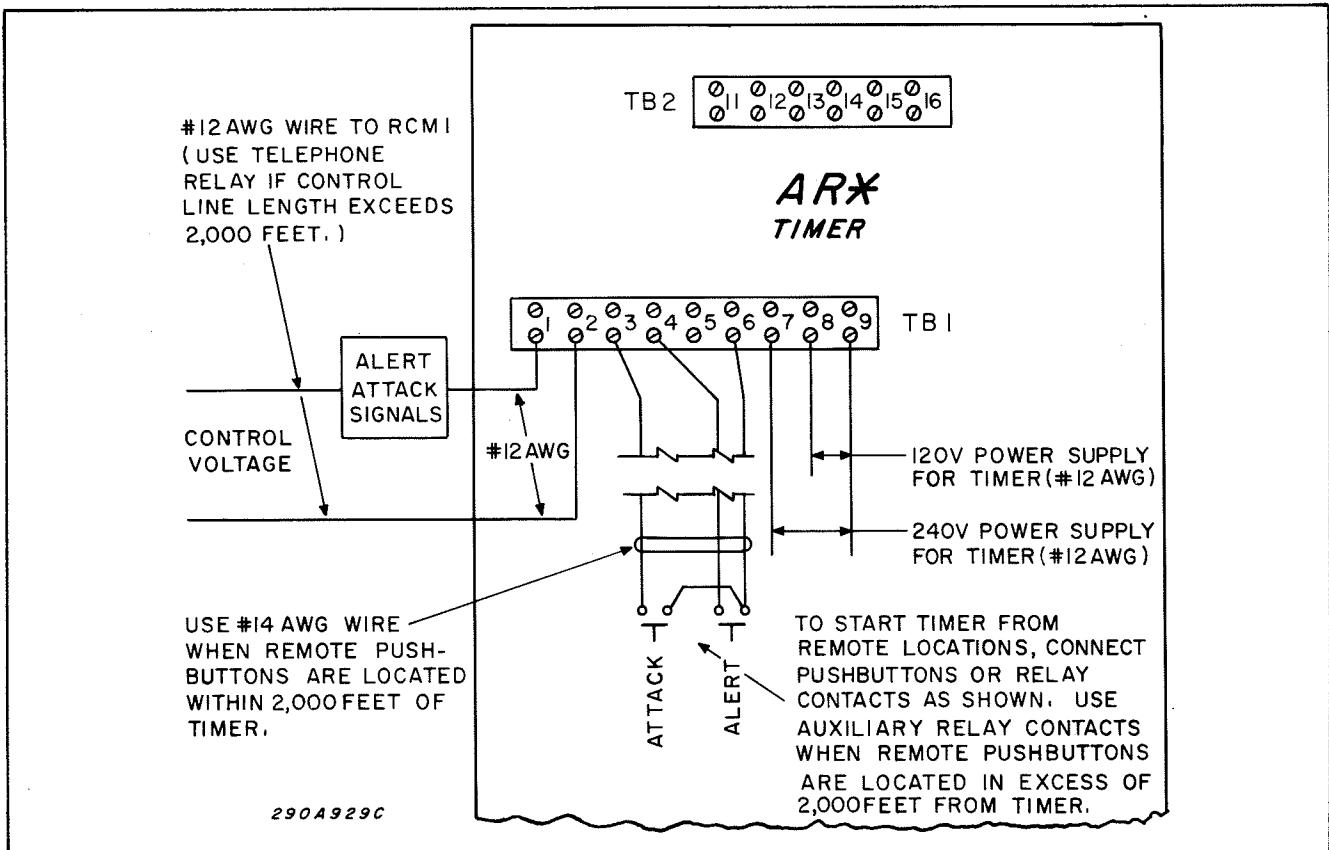
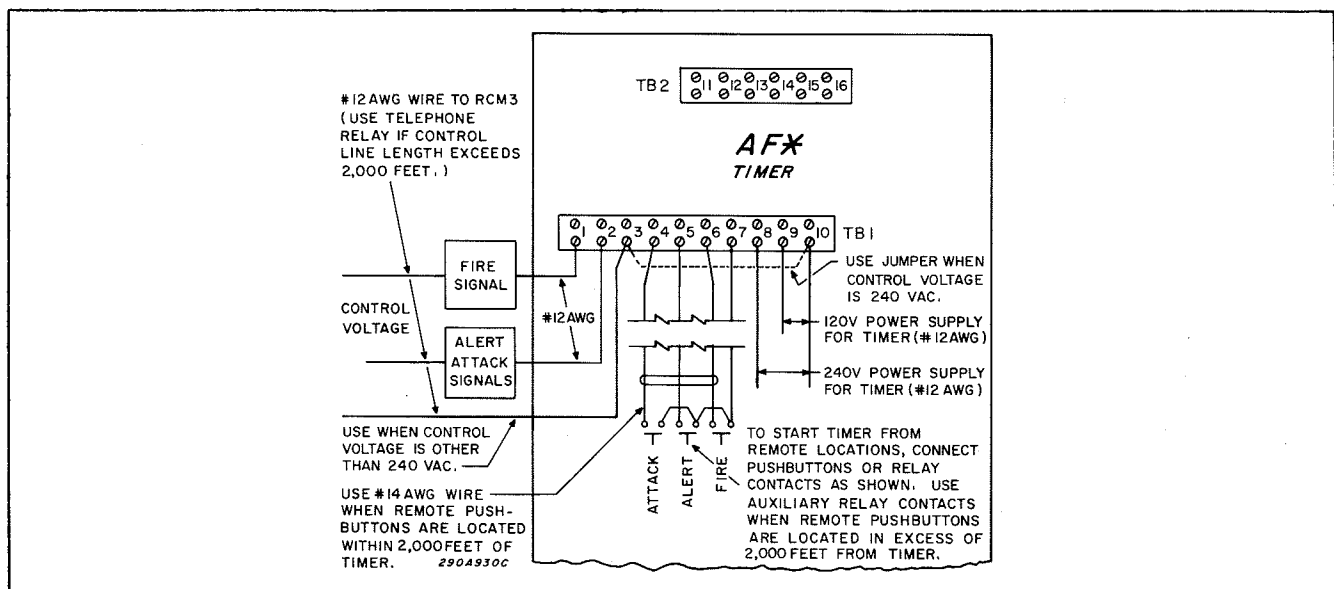

Figure 3-21. AR Timer Electrical Connections.
Figure 3-23. AF Timer Electrical Connections.
7. Install the AR timer or other control device (see figure 3-21). Connect the control device to TB102 in the RCM1. If it is desired to operate the timer from remote control pushbuttons, install them at this time also. If the length of the wiring between the pushbuttons and the timer exceeds 2000 feet (610m.), install an SPST telephone relay, such as the Federal Model TRC*1020, between each pushbutton and the timer. If it is required to cancel a signal from a remote location, remove the jumper between TB2-15 and TB2-16 and connect the normally closed contacts of the switch or relay to TB2-15 and 16 (see figure 5-18).
10. Install the AF Timer or other control device (see figure 3-23). If it is desired to operate the timer by means of remote push-buttons, install them at this time. If the length of the wires between the pushbuttons and the timer exceeds 2,000 feet (610m), install an SPST relay, such as the Federal Model TRC*1020 between each pushbutton and the timer. If it is required to cancel a signal from a remote location, remove the jumper between TB2-15 and TB2-16 and connect the normally closed contacts of the switch or relay to TB2-15 and 16 (see figure 5-19).
The Federal Model AR and Model AF Timers contain the devices necessary for the control of the Model 1000 and 1003 Thunderbolt Sirens, respectively. However, the timers do not include a power supply for the control circuits. Therefore, the user must provide an external power supply, such as the Federal Model PS, in the siren control circuitry (see figure 3-21 or figure 3-23).